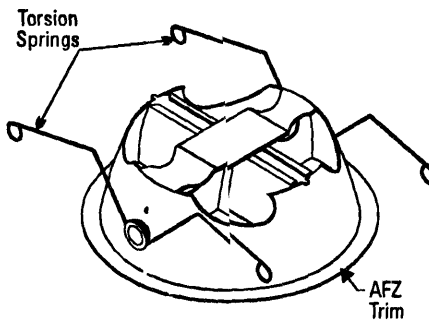

Fig. 1
- The AFZ/AFZW trim has two torsion springs on both sides for trim retention as shown in Fig. 1.